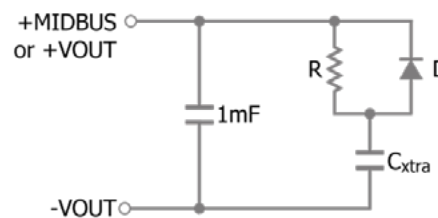

Figure 19: Series R || D network for capacitance at +MIDBUS or +VOUT in excess of 1 mF
- 3) +MIDBUS should *not* be connected directly in parallel between units. It is acceptable to share a single +MIDBUS holdup capacitor between multiple units by connecting multiple R|D elements (from Figure 19) in a star configuration, but doing so will defeat any common mode filtering in individual input filters. The recommended value of +MIDBUS capacitance should be placed locally at each unit.
+VOUT in regulation as seen in Figure 18. Capacitor must be rated to ≥ 450 V. For capacitance above 1 mF, use R||D network as shown in Figure 19.
Figure 17: Minimum holdup capacitance required at +VOUT to ride through a 50 ms line interruption, allowing +VOUT to drop from 400 V nominal down to 320 V or 240 V. Capacitor must be rated to ≥ 450 V. For capacitance above 1 mF, use R||D network as shown in Figure 19.
Figure 18: Response to 50 ms line interruption; 60 Hz; 5.0 kW power drawn from +VOUT pin; 7.5 mF total capacitance placed at +MIDBUS with series R || D network as shown in Figure 19.
Capacitance in excess of the 1 mF maximum value requires an additional series R || D network for optimum stability, as shown in Figure 19. The diode must be rated for at least 600 V and a fast recovery type is recommended to improve forward recovery characteristics. The resistor must be adequately rated for pulse capability: a ceramic composition type is recommended.
For capacitors between 1 mF and 10 mF, the resistor value shown in Figure 19 should be 4.7 Ω . Capacitors larger than 10 mF may be used, but it is possible to trip the “+MIDBUS Under-Voltage Shutdown” protection if +MIDBUS does not reach 50 V within 150 ms after it begins to ramp up. Increasing